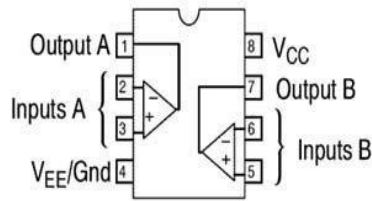

Figure 4: LM358 Pinout diagram
- The pinout for the IC is as given in Figure 4. As can be seen by the connections symbolically shown within the IC's top view, there are 2 op amps, one on each side. V_{CC} and V_{EE} are the connections to be made from the external power supply. We will be using V_{CC} as the +5V supply line, and V_{EE} as the -5V supply line.